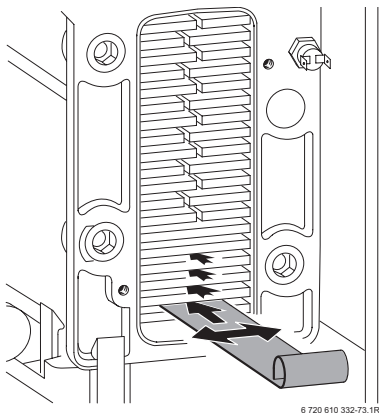

Fig. 47
- ▶ Loosen any deposits in the heat exchanger from top to bottom using the cleaning blade. Refer to fig. 47.